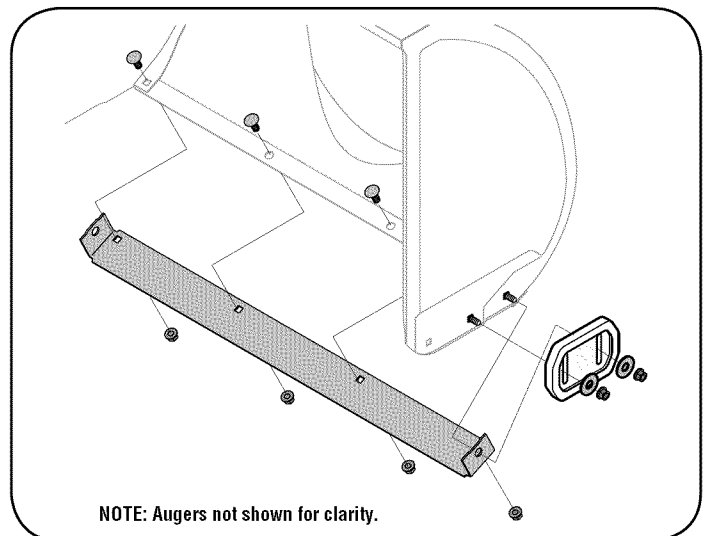

Figure 19
2. Reassemble new skid shoes with the four carriage bolts (two on each side), washers, and hex flange nuts. Refer to Figure 19.
4. Reassemble new shave plate, making sure heads of carriage bolts are to the inside of housing. Tighten securely. See Figure 19.